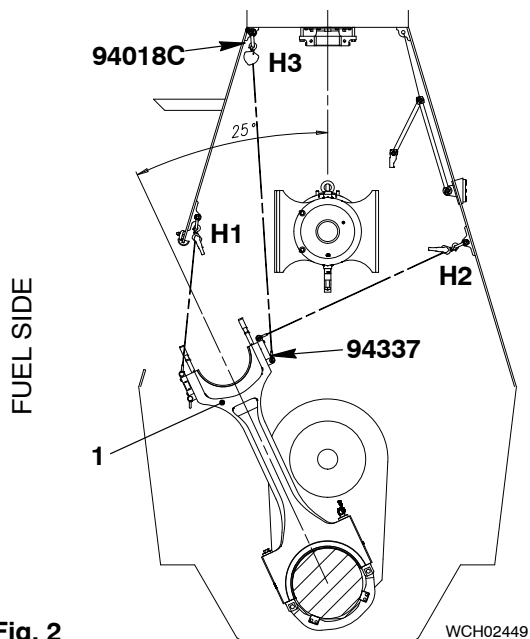

Fig. 2
- 1) Use the manual ratchets (H1, H2, Fig. 2) to move the connecting rod (1) to the fuel side.